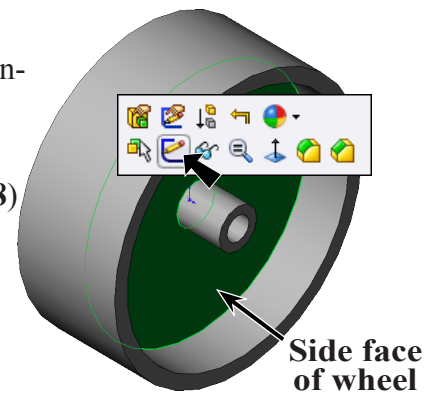

Fig. 13
Step 1. Click the **side face of wheel** and click **Sketch**  on the Content menu, **Fig. 13**.